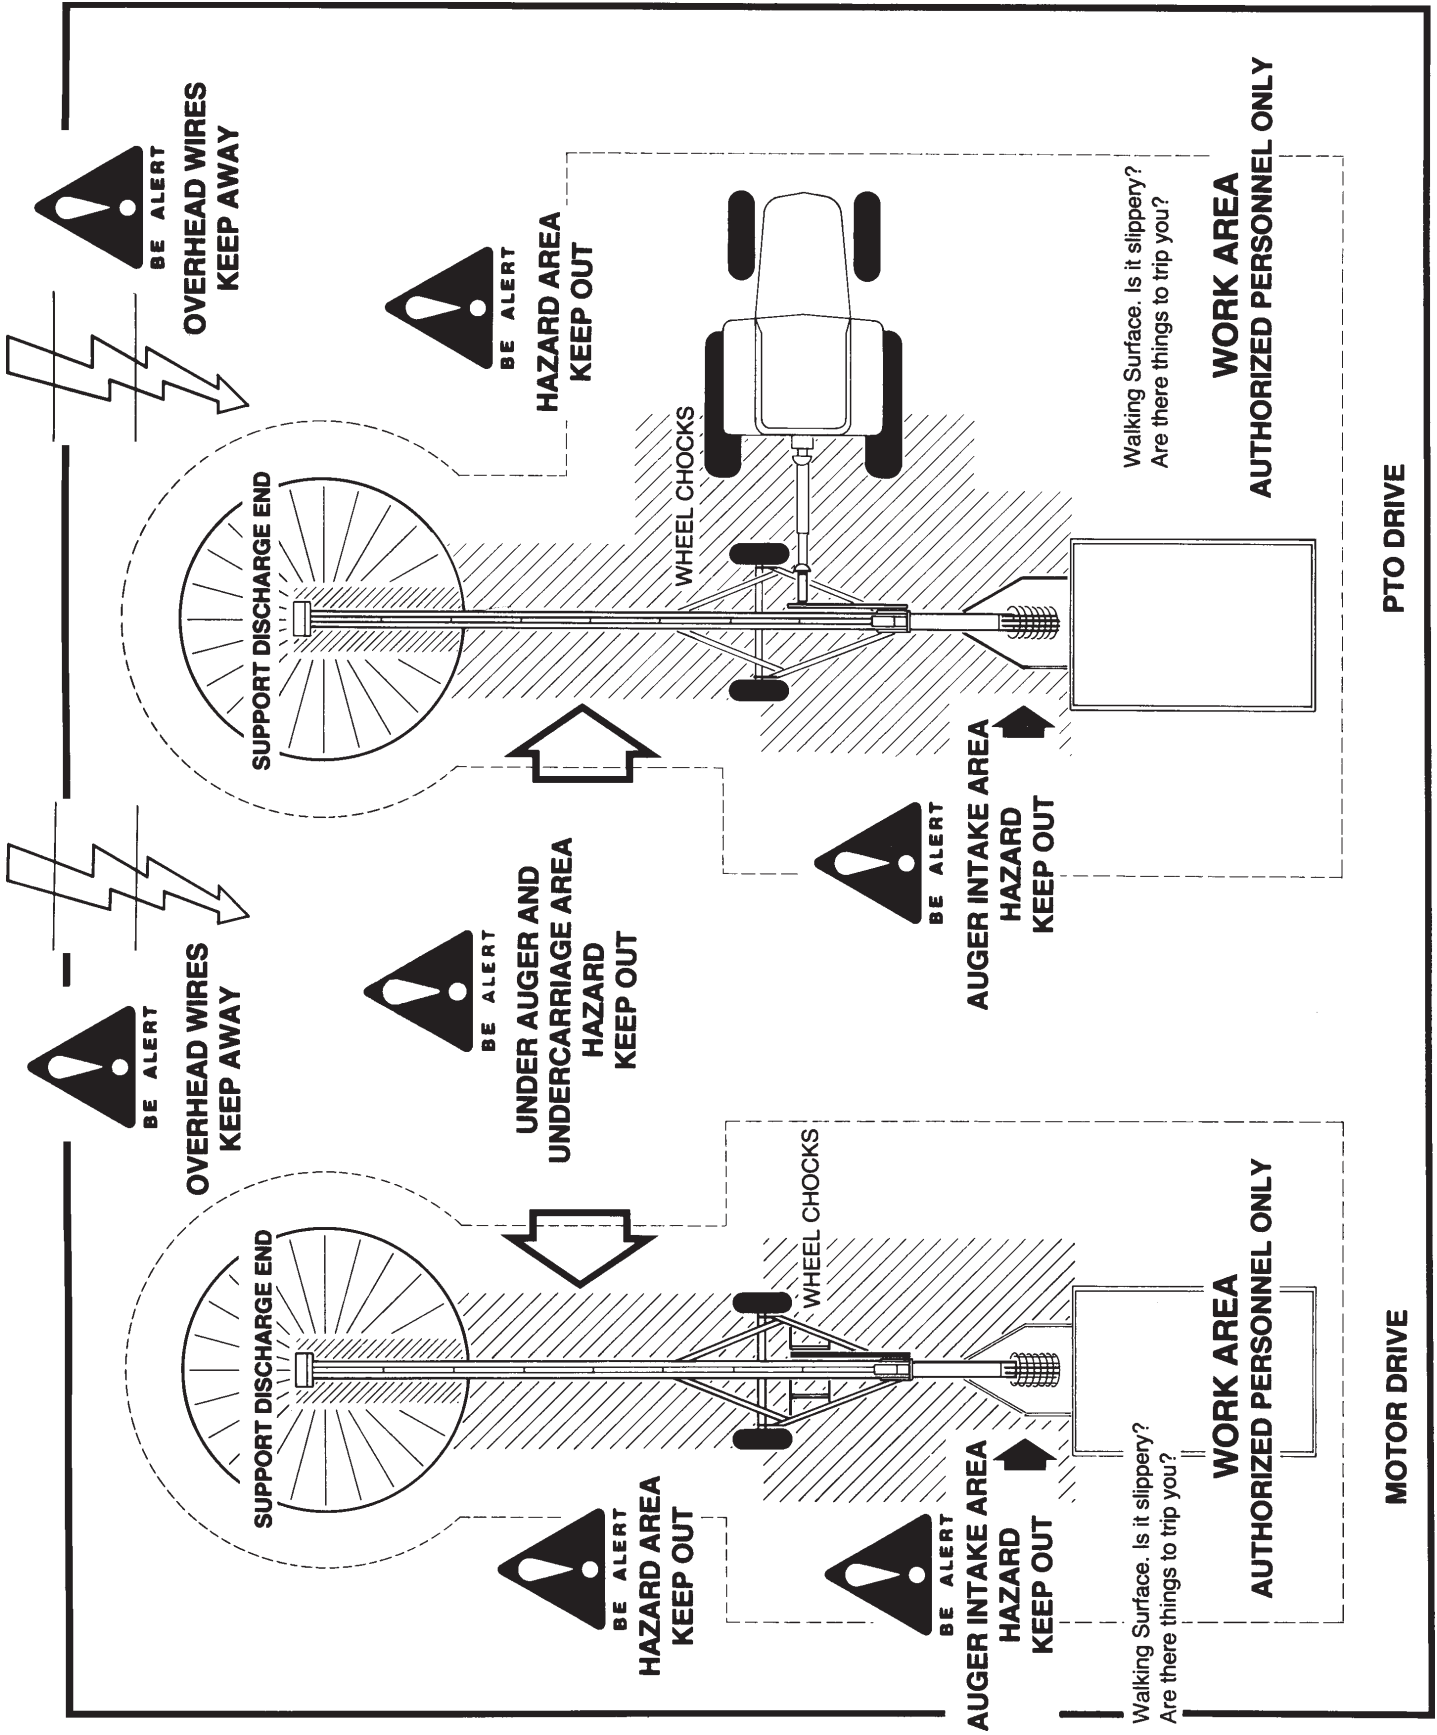

Figure No. 2.1.1 - Auger Hazard Areas
- Keep children and untrained people away from auger work area (see **Figure No. 2.1.1**). The area around an auger is not safe for untrained personnel, and especially not safe for children.